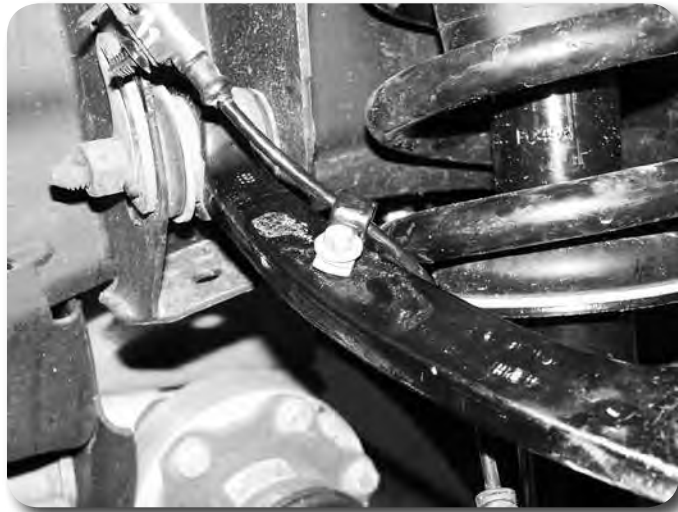

Figure 19
40. Attach the ABS line to the upper control arm with the original brake line mounting bolt and provided wire clamp Figure 19.